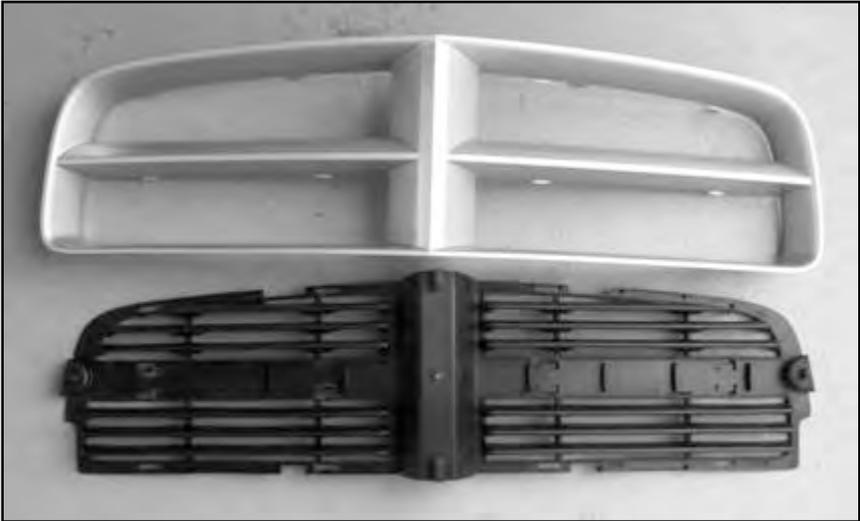

Figure 3. Grille assembly comprising a grille frame (above) and grille.
1.2) Remove the grille frame screws. The grille assembly consists of two pieces, the grille frame and the grille (**Fig. 3**). Both must be removed from the vehicle to release the grille.